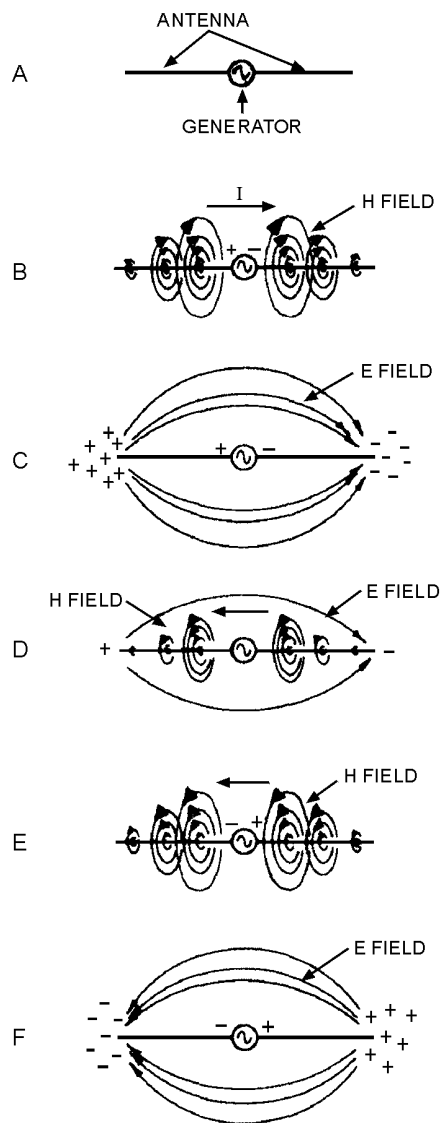
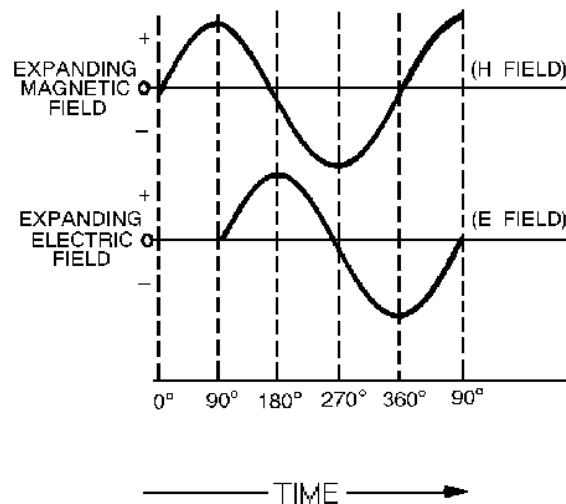

Figure 2-1.—Induction field about an antenna.
Figure 2-2.—Phase relationship of induction field components.
Figure 2-1, a low-frequency generator connected to an antenna, will help you understand how the induction field is produced. Let's follow the generator through one cycle of operation.
The graph shown in figure 2-2 shows the relationship between the magnetic (H) field and the electric (E) field plotted against time. Note that the two fields are 90 degrees out of phase with each other. If you compare the graph in figure 2-2 with figure 2-1, you will notice that the two fields around the antenna are displaced 90 degrees from each other in space. (The H field exists in a plane perpendicular to the antenna. The E field exists in a plane parallel with the antenna, as shown in figure 2-1.)